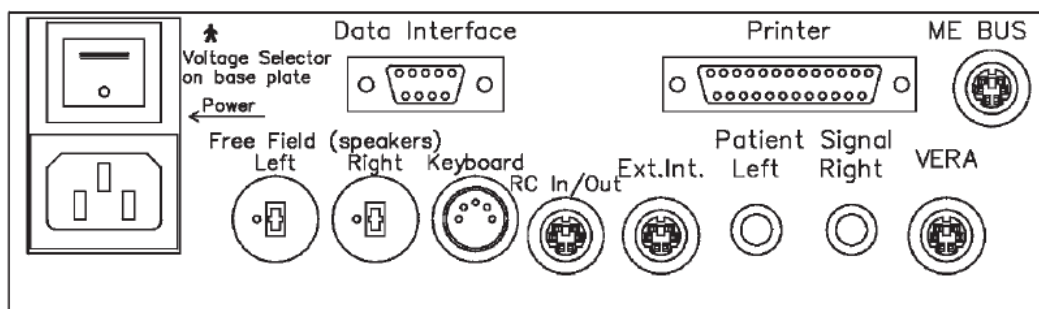
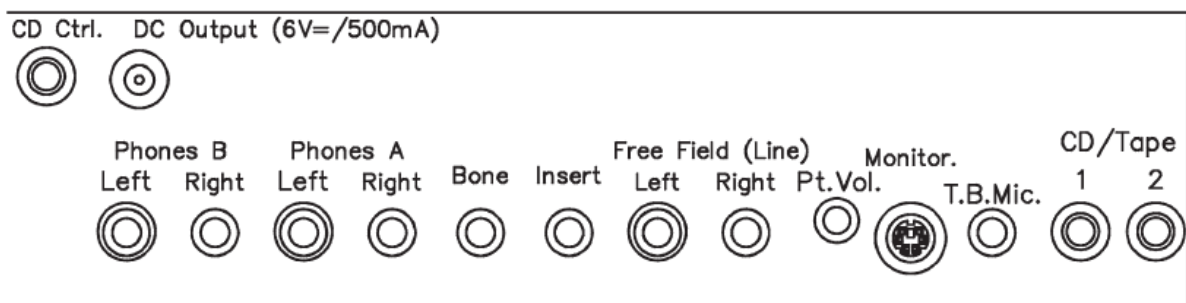

Figure 2-1 ORBITER 922 CONNECTION PANEL (LEFT).
Figure 2-2 ORBITER 922 CONNECTION PANEL (RIGHT).
Connect the headset, insert phone(s), patient response hands-witch(es), speakers, bone conductor and, if required, the optional PC keyboard, CD player and personal computer (PC) to their respective connectors in the Connection Panel located on the rear of the instrument (see Figure 2-1 and Figure 2-2 as well as the fold-out diagram at the back of this manual).